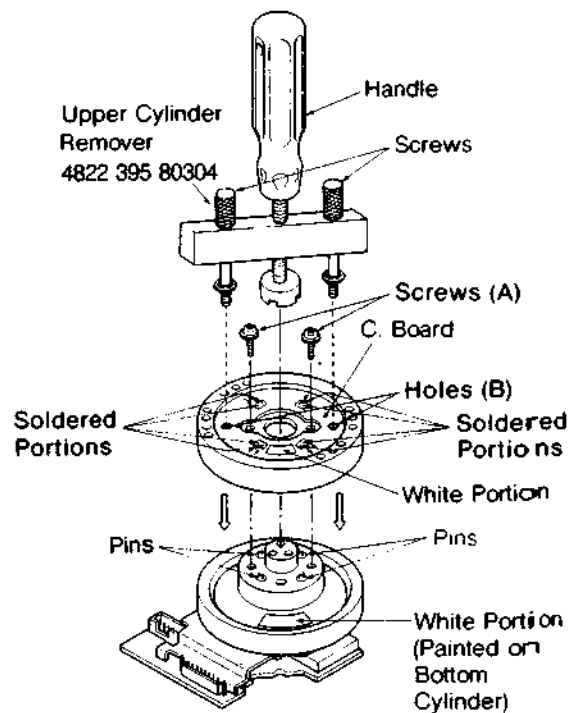

Fig. 1-13
- Remove 2 screws (A), then unsolder the soldered portions indicated by arrows as shown in Fig. 1-13.
- Set the screws of upper cylinder remover into holes (B) then tighten the screws of upper cylinder remover fully.